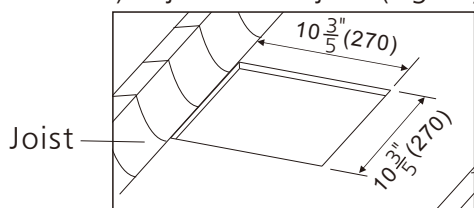

Fig.21
1. Make a hole of $10\frac{3}{5}$ " X $10\frac{3}{5}$ " inches (270 X 270mm) adjacent to a joist.(Fig.21)